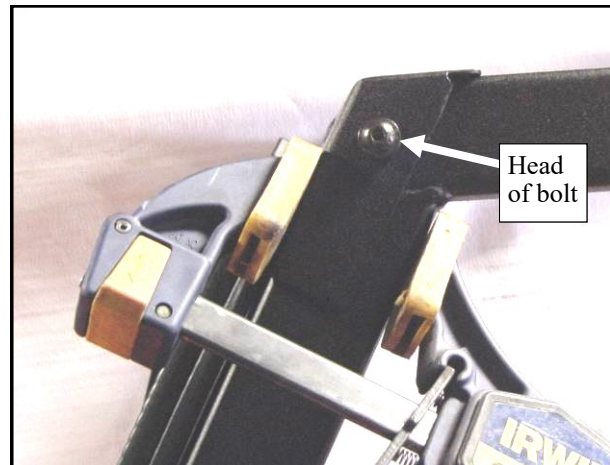

Fig. 9.1 (View from left side of tractor)
9.1 Per fig. 9.1, keep the windshield support tight against the side frame tubing (downward also) and tighten the two bolts (one per side). Use bar clamps as shown if necessary.